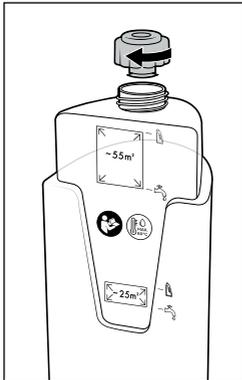

Fig. 10
- ◆ Close the lid of the fresh water tank **1** (see fig. 10).